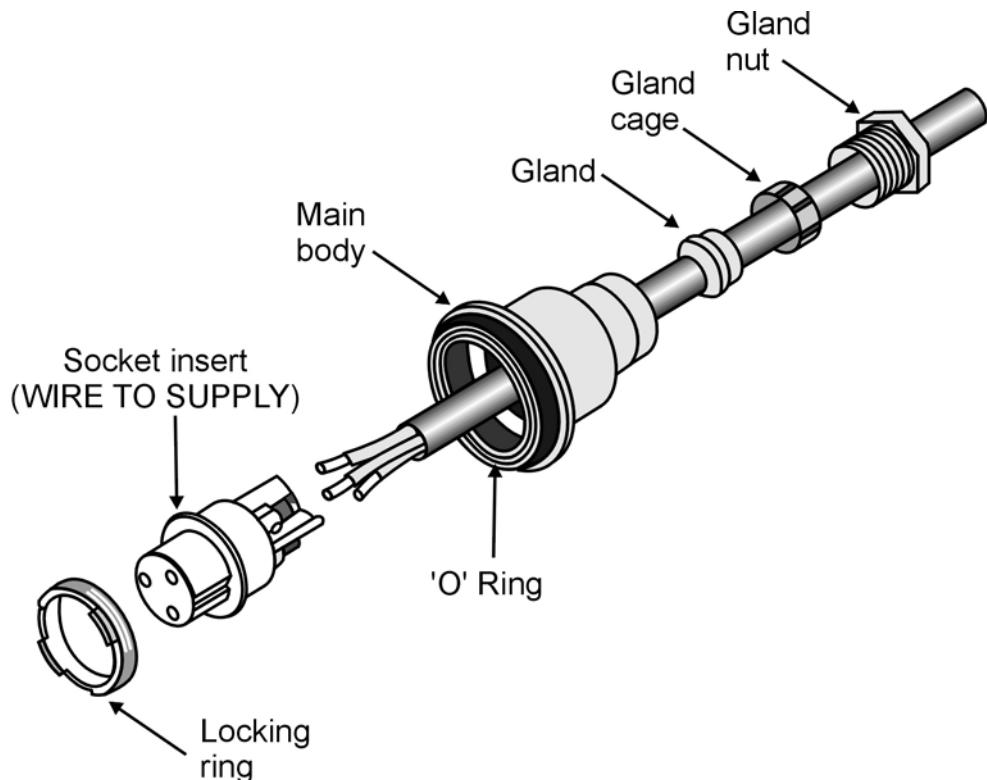

Figure 2-11: Preparing the Power Cable
- 3 Thread the cable through component parts as shown in Figure 2-11.
Figure 2-11 shows an AC power jack. The DC power jack is similar, but has only two sockets.
- 4 Strip insulation from wires as shown in Figure 2-11.